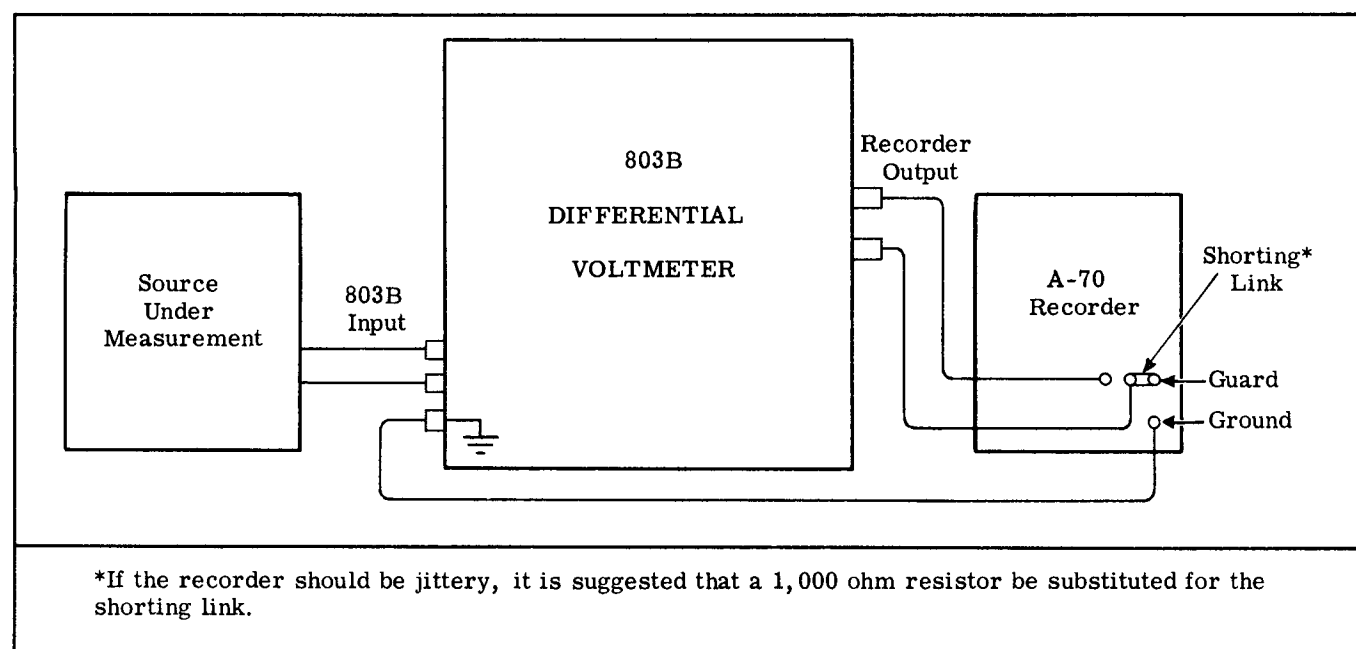

Figure 2-5. RECORDER RECOMMENDED CONNECTION DIAGRAM
a. Connect A-70 recorder to 803B voltmeter with teflon leads as shown in figure 2-5.